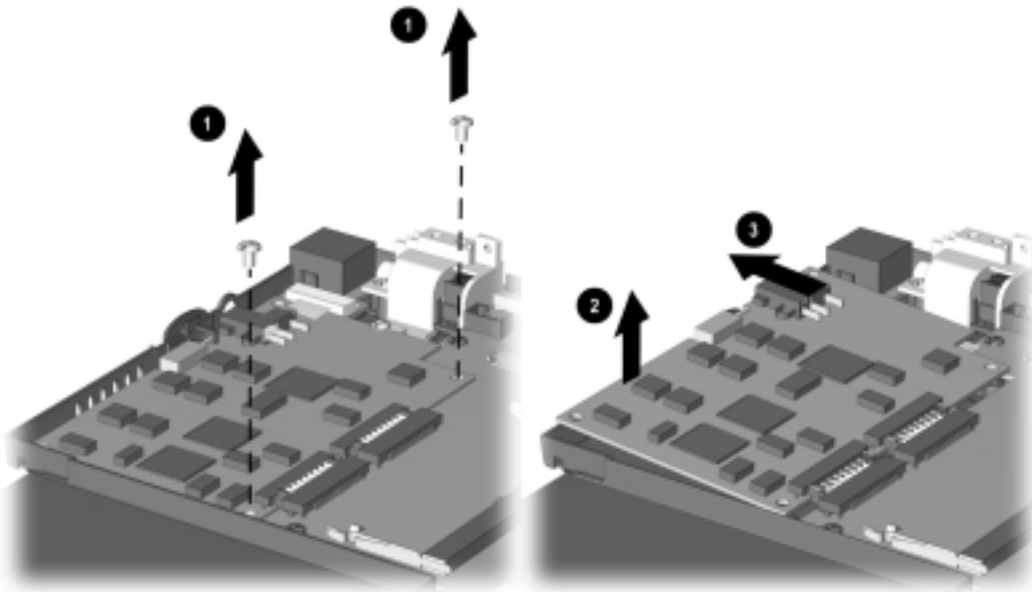

Figure 5-23. Removing the Voltage Converter Board
6. Remove the two screws ❶ that secure the voltage converter board to the system board (Figure 5-23).
7. Lift up the left side of the voltage converter ❷ until it clears the left edge of the base assembly.
8. Pull the voltage converter board to the left to disconnect it from the system board ❸.